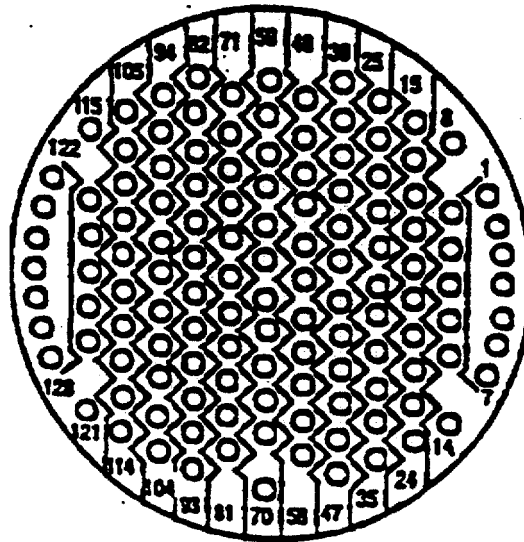

Figure 1. End View of DASE Connectors P688, P686 and P682
(7) Pull (Open) the BUCS circuit breaker located on the Pilots center circuit breaker panel.
(8) Gain access to the Aft Avionics Bay Door by opening door R295. Remove connectors P688, P686 and P682 from the DASE Computer (7-211 D00005-21/23). Locate pin 66 on P682, insert a electrical pin. Locate pins 125 (51) and 126 (52) on P686 - insert electrical pins Reference figure 1 for depiction of these connector socket contacts, each connector has the same contact pattern.